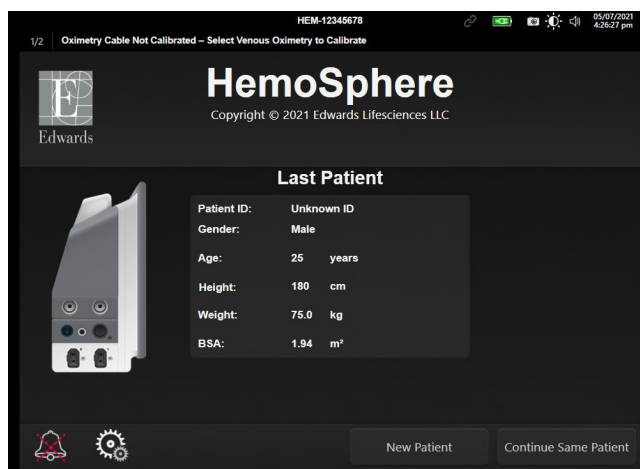

Figure 6-1: New or continuing patient screen
After the system is turned on, the user has the option to either continue monitoring the last patient or to start monitoring a new patient. See Figure 6-1 on page 137.
1. After turning on the monitor, the new or continuing patient screen appears (Figure 6-1 on page 137). Touch **New Patient** and continue to step 6.